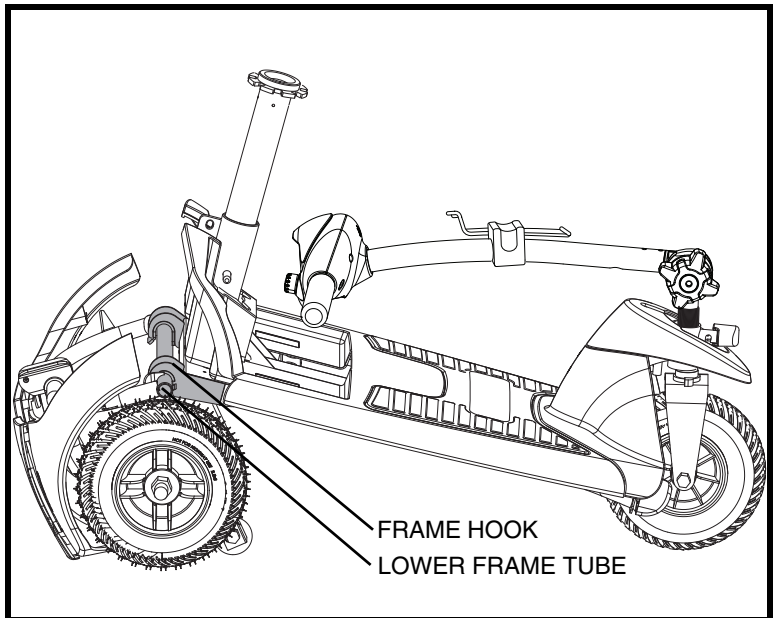

Figure 21. Frame Separation
4. Slowly separate the two sections of the Travel Scooter. See figure 21.
NOTE: Before attempting assembly, tilt the rear half of the Travel Scooter slightly back on the anti-tip wheels as show in figure 21.
1. Use the seat post to lift the front section as you align the frame hooks of the front section with the lower frame tube of the rear section. See figure 21.